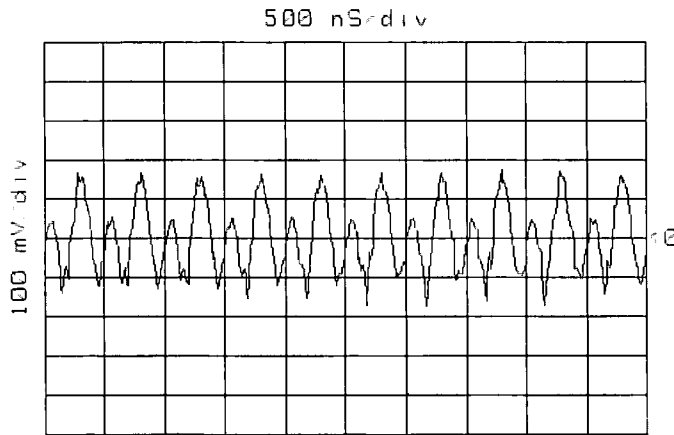

Figure 5-27. Typical Waveform at A49TP1
9. Connect the oscilloscope's Channel A input to A49TP1. Set the oscilloscope for 0.01 V/div, ac coupled, and 0.5 us/div. The oscilloscope display should look similar to Figure 5-27.